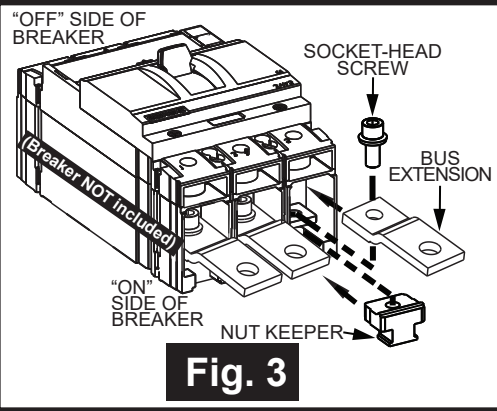

Fig. 3
6. Select the proper nut keepers and slide them under each phase of the breaker stabs on the "ON"-side of the breaker. They "click" into place when properly inserted. (**See Fig. 3**)